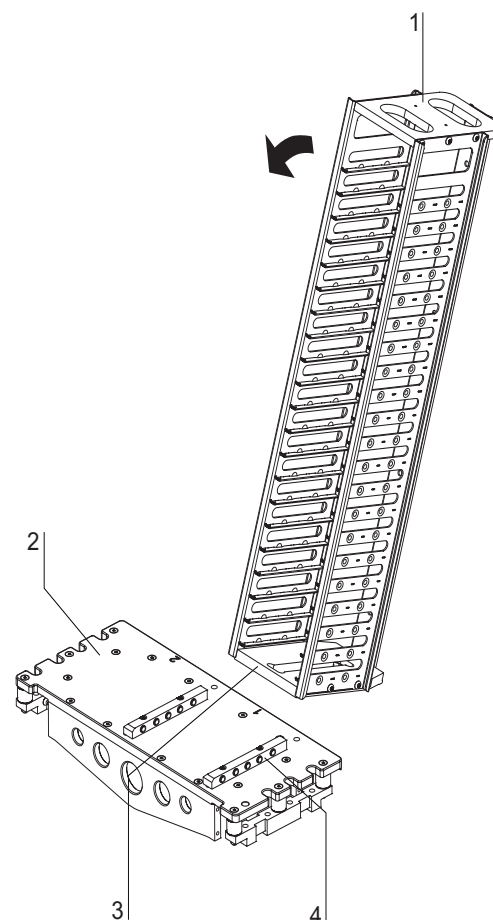

Fig. 18,
1. **Fig. 18:** Grab the stacker at the handle plate [1]. Slightly tilt the stacker toward the front of the device, position it above the locking rail [4] and exert slight pressure to the front until it is engaged.